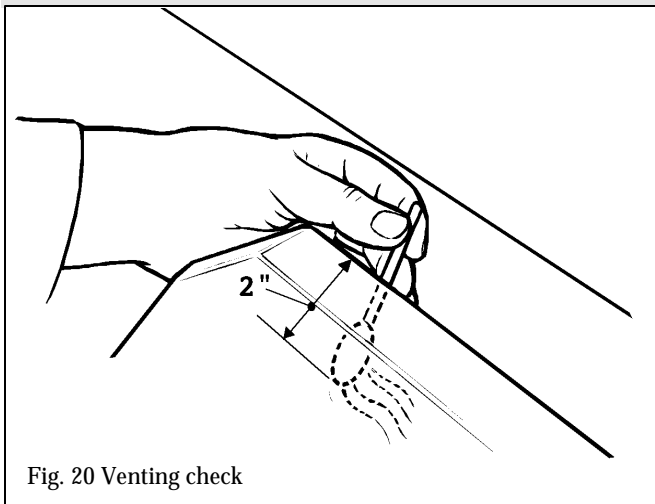

Fig. 20 Venting check
- 16.4** Light a long match. Insert the match into the draft hood opening near the left side (viewed from the front) to a depth of 2" - See figure 20. The installation is satisfactory if the smoke does not escape from the opening.